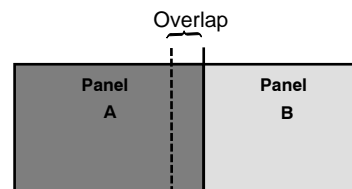

Figure 4.
5. On the Product side where the joint will be, leave 1/2 inch (13 cm) of Product liner on Panel A. See Figure 4.